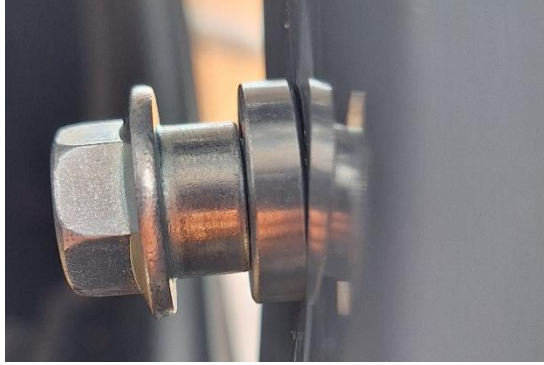

Figure 8: Shoulder bolt and spacer installation.
- Step 4: Once the holes are free of debris, install just the shoulder bolt and spacer as depicted in Figure 8.